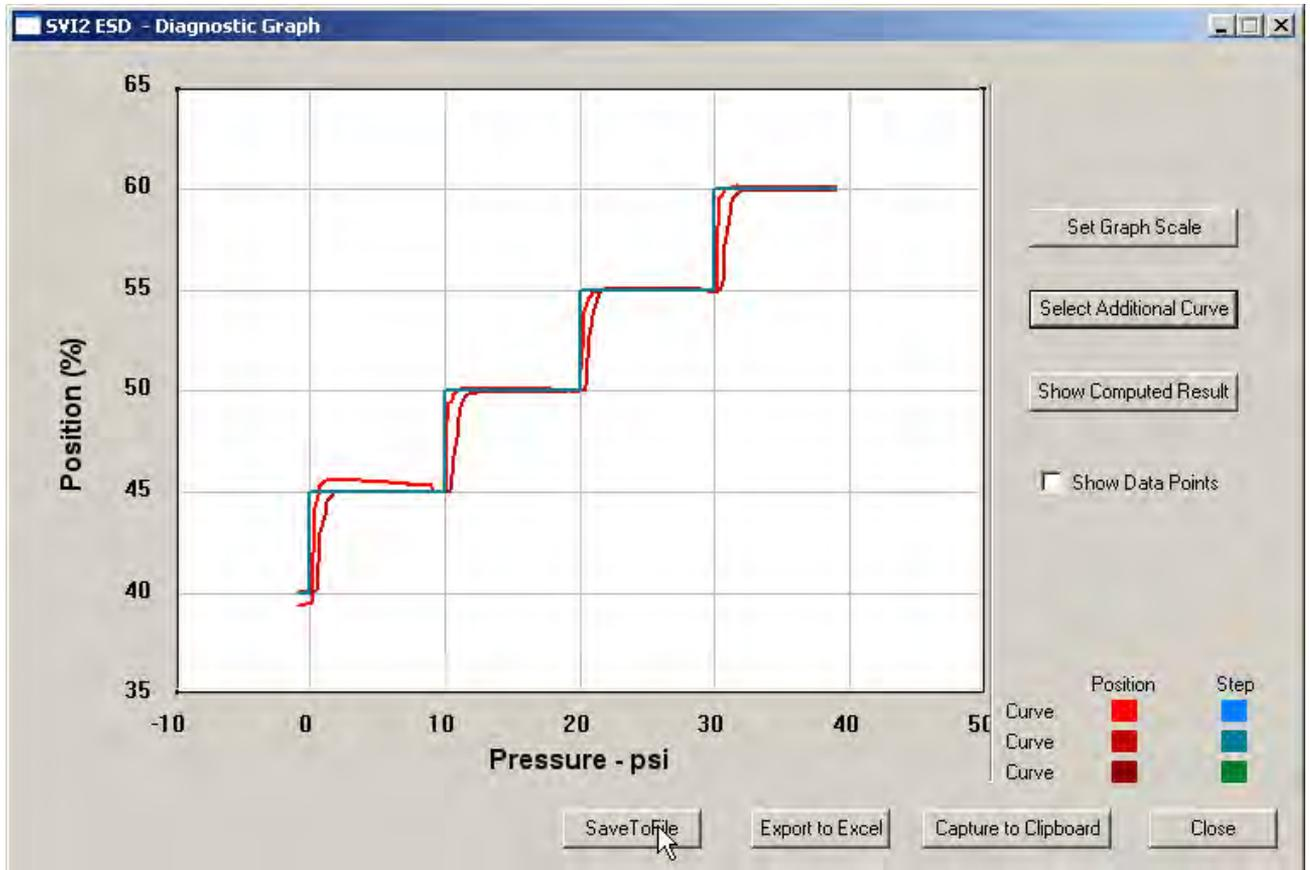

Figure 194 Selecting Save To File
1. Select **Save To File** (Figure 194).